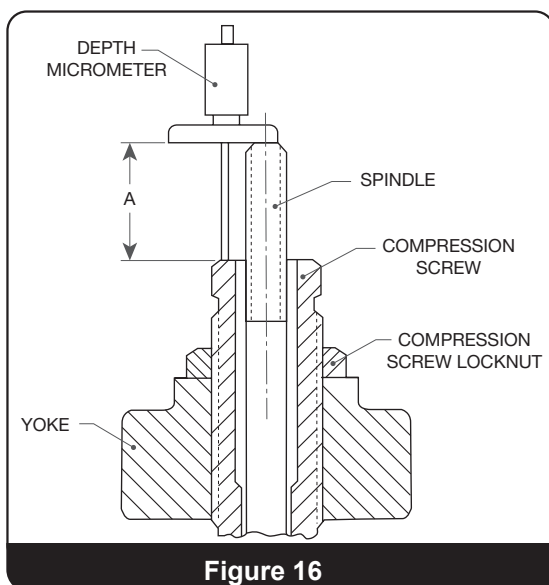

Figure 16
**Note: For all Consolidated Series 2700 Safety Valves, one revolution of the lift stop equals .063” (1.59 mm) of lift. There are six (6) notches on the lift stop, so each notch of adjustment represents approximately .010” (0.25 mm) lift.**
26. Refer to Figure 16 and establish Dimension A to that previously recorded in Section XI.B.4 of “Disassembly.”